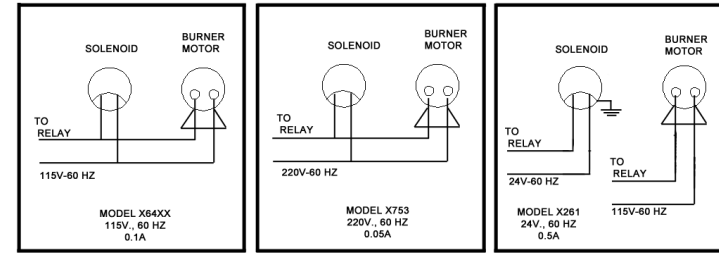

Figure 3 : Solenoid Wiring
The shut-off valve should be installed in accordance with local and national safety codes. (See Figure 3 – wiring diagrams)
B. WIRING (See Figure 3)
2. Attach the solenoid leads according to Figure 3 and the burner or appliance manufacturer's instructions.